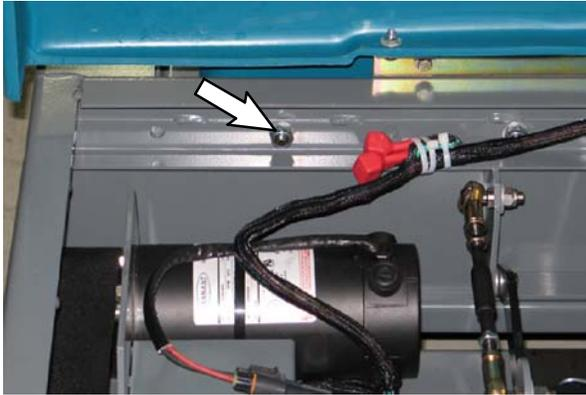

FIG. 2
2. Insert and tighten the mounting hardware. Refer to Fig. 2.